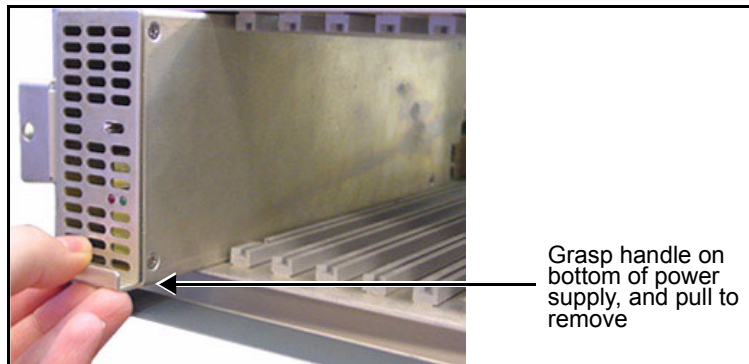

Figure 3-2. Removing a Power Supply
5. Grasp the handle on the front of the power supply, and then pull it out of the frame. See Figure 3-2 on page 45.